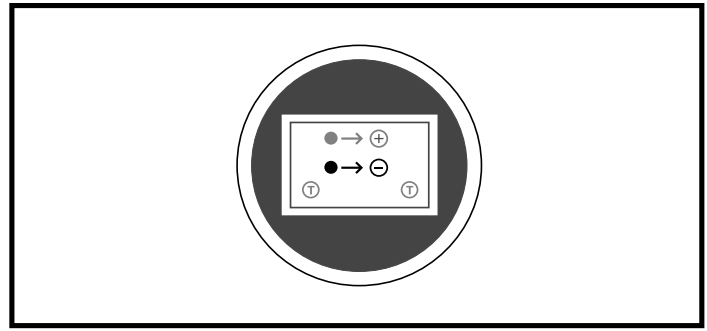

Figure 40. Battery Wiring Diagram Label
7. Reconnect the battery harnesses according to the battery wiring diagram label. See figure 40.